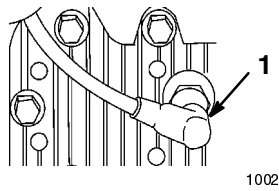

Figure 37
2. Disconnect the wire from the spark plug (Fig. 37).